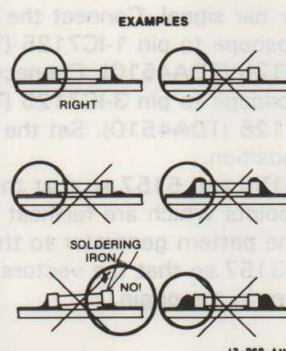

Fig. 8.3
- g. The quantity of solder must be proportional to the size of the solder land. If the quantity is too great, the SMD might crack or the solder lands might be torn loose from the printed board (see Fig. 8.3).